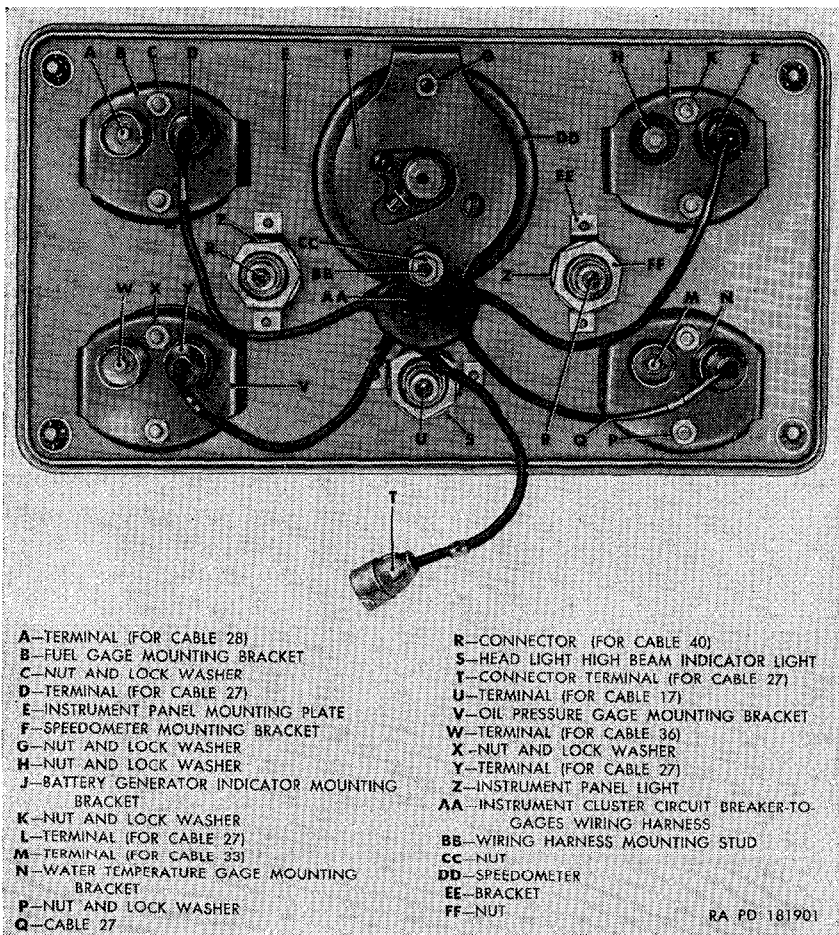

Figure 115. Instrument cluster (M170)—rear view.
*Note.* The key letters noted in parentheses refer to figure 115, except where otherwise indicated.
*c. Removal (M170).* Turn the four instrument cluster mounting plate studs (A, fig. 113) one-half turn counterclockwise and pull instrument cluster free from instrument panel. Unscrew the instrument panel light cover (D, fig. 113) from the instrument panel light (Z, fig. 115). Disconnect cable 40 from connector (R, fig. 115). Unscrew the nut (FF, fig. 115) and remove the lockwasher securing the instrument panel light (Z, fig. 115) to the bracket (EE, fig. 115) and push light out of bracket from the rear of the panel and through the opening in the panel.
*d. Installation (M170).* Insert the instrument panel light into the bracket (EE, fig. 115) through the opening in the instrument cluster panel. Place a lockwasher over the threaded end of the light and install the nut (FF, fig. 115) securing the light to the bracket (EE, fig. 115). Connect cable 40 to the connector (R, fig. 115). Screw the cover (D, fig. 113) onto the instrument panel light (Z, fig. 115). Position the instrument cluster on the instrument panel and turn the four instrument cluster mounting plate studs (A, fig. 113) one-half turn clockwise.
*c. Removal (M170).* Follow the same procedure as outlined in paragraph 179b(1) for instrument panel lights except that cable 17 is disconnected from connector (T, fig. 115).
*d. Installation (M170).* Follow the same procedure as outlined in paragraph 179b(2) for instrument panel lights except that cable 17 is connected to the connector (T, fig. 115).